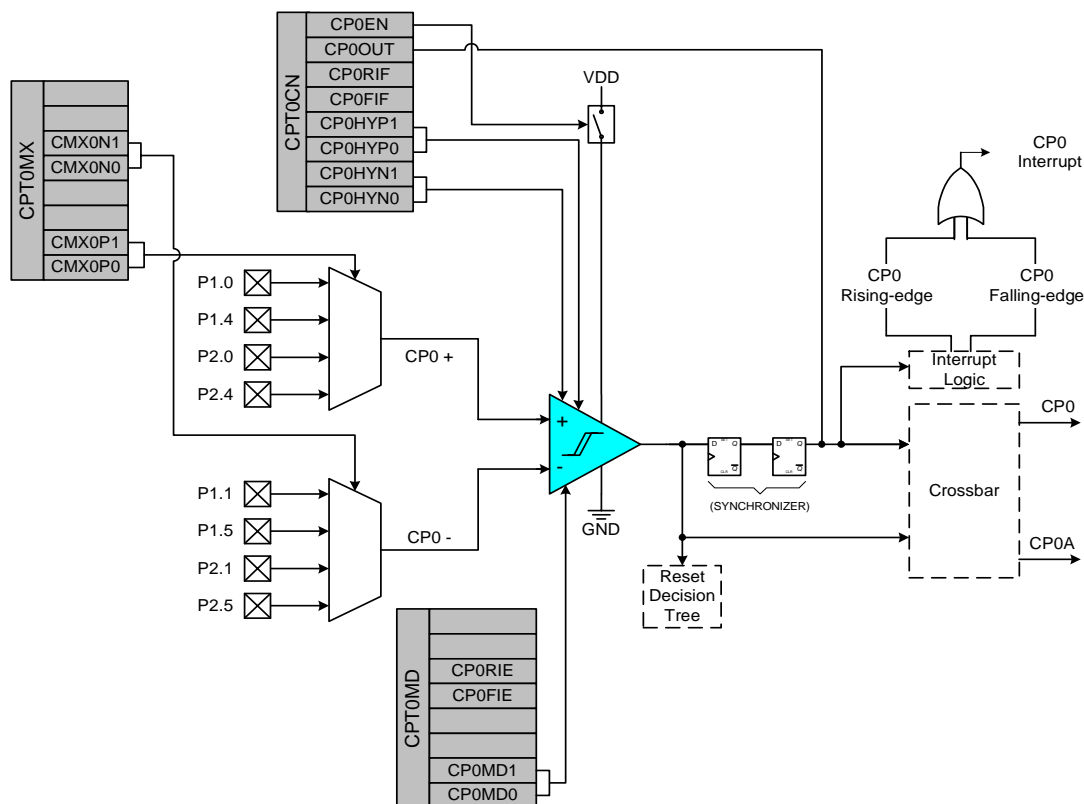
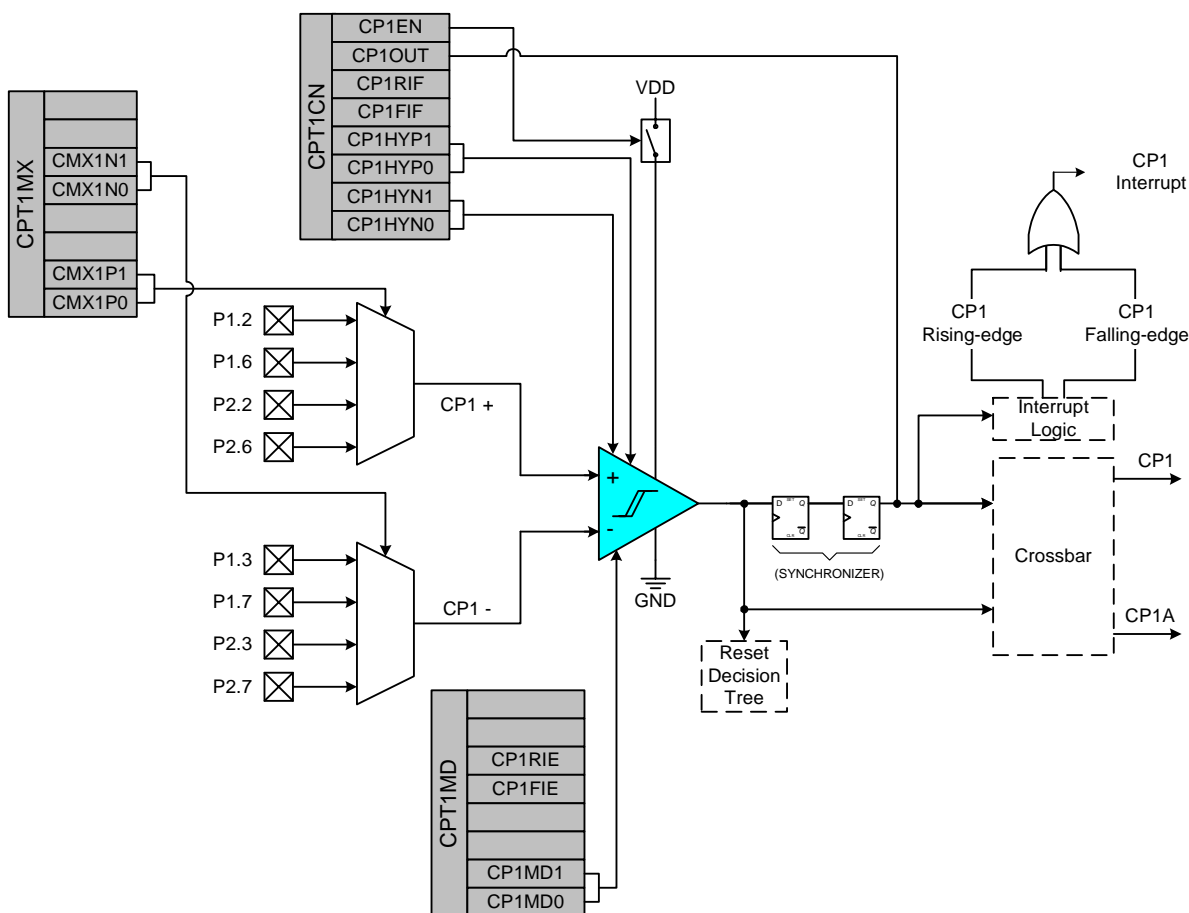

Figure 7.1. Comparator0 Functional Block Diagram
Figure 7.2. Comparator1 Functional Block Diagram
C8051F31x devices include two on-chip programmable voltage comparators: Comparator0 is shown in Figure 7.1; Comparator1 is shown in Figure 7.2. The two comparators operate identically with the following exceptions: (1) Their input selections differ as shown in Figure 7.1 and Figure 7.2; (2) Comparator0 can be used as a reset source.